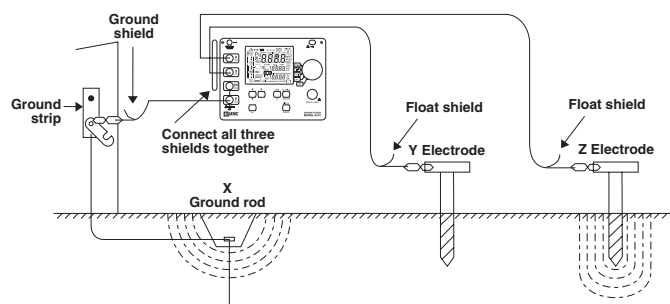

Figure 25
C) If a satisfactory low voltage value is still not obtained, the use of shielded cables may be required. The shield acts to protect the inner conductor by capturing the voltage and draining it to ground. (Figure 25)